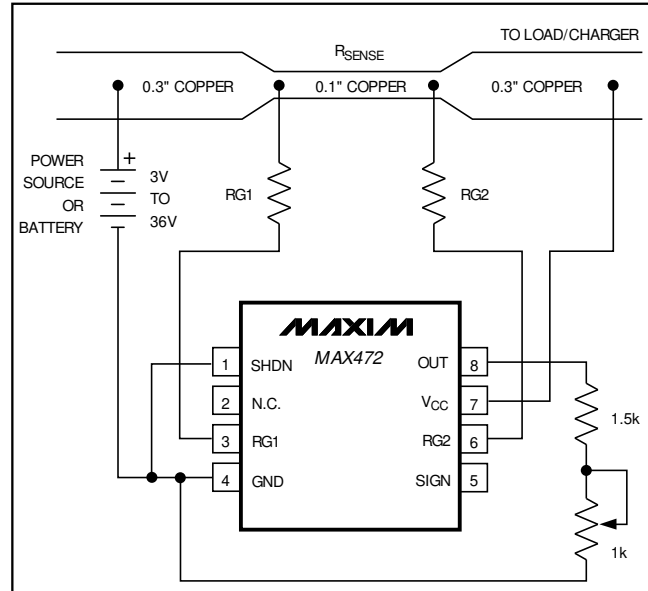

Figure 6. MAX472 Connections Showing Use of PC Board Trace
- Cost:** If the cost of RSENSE becomes an issue, you may want to use an alternative solution, as shown in Figure 6. This solution uses the PC board traces to create a sense resistor. Because of the inaccuracies of the copper “resistor,” you will need to adjust the full-scale current value with a potentiometer. Also, the resistance temperature coefficient of copper is fairly high (approximately 0.4%/°C), so systems that experience a wide temperature variance should take this into account.
In Figure 6, assume the load current to be measured is 10A and that you have determined a 0.3 inch wide, 2 ounce copper to be appropriate. The resistivity of 0.1 inch wide, 2 ounce copper is 30mΩ/ft (see Note 4). For 10A you may want  $R_{SENSE} = 5m\Omega$  for a 50mV drop at full scale. This resistor will require about 2 inches of 0.1 inch wide copper trace.